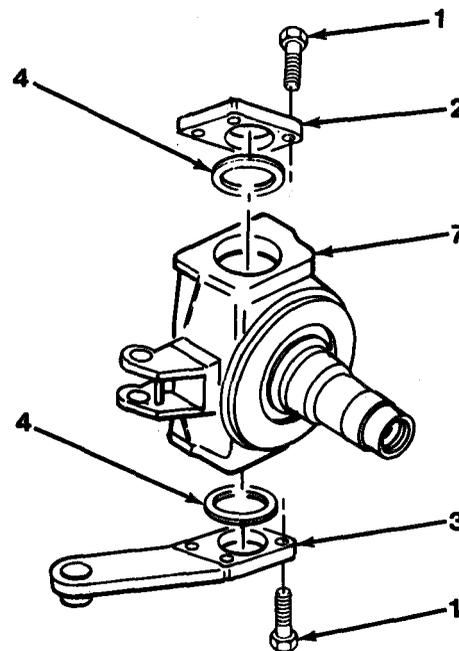

Figure 12-1
5. Position hoist above pivot and spindle assembly (7, Figure 12-1). Support pivot and spindle assembly (7) with sling.
6. Remove eight bolts (1), pivot cap (2) and tie rod lever (3).
7. Remove and measure shim packs (4). Record measurements and locations of shims.